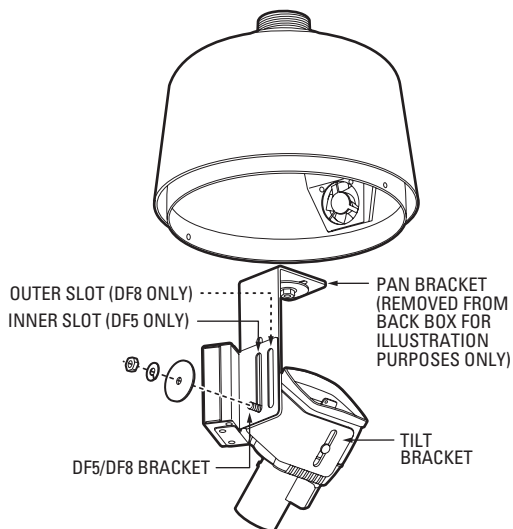

Figure 19. Mounting FT8301A Transmitter into DF5/DF8 Pendant Dome
8. Mount the transmitter into the back box as follows (refer to Figure 19):
NOTE: In Figure 19, the pan bracket is removed from the back box for illustration purposes only. You do not need to remove the pan bracket from the back box.